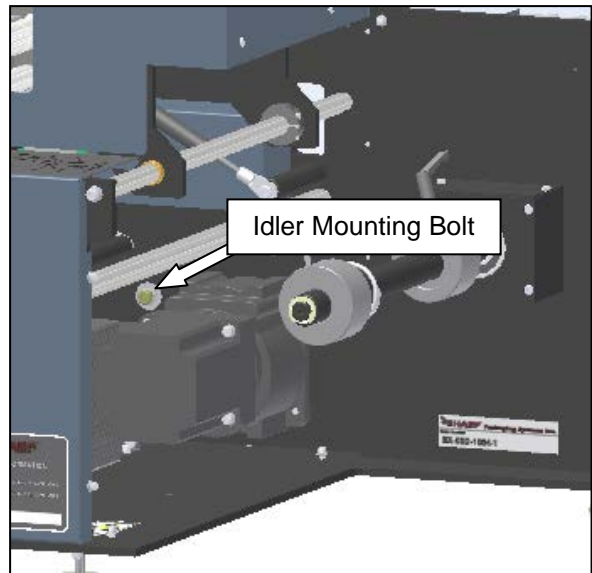

Figure 3-301. Pressure Bar Belt Idler
3. Remove the idler pulley by loosening the socket head cap screw indicated in Figure 3-301